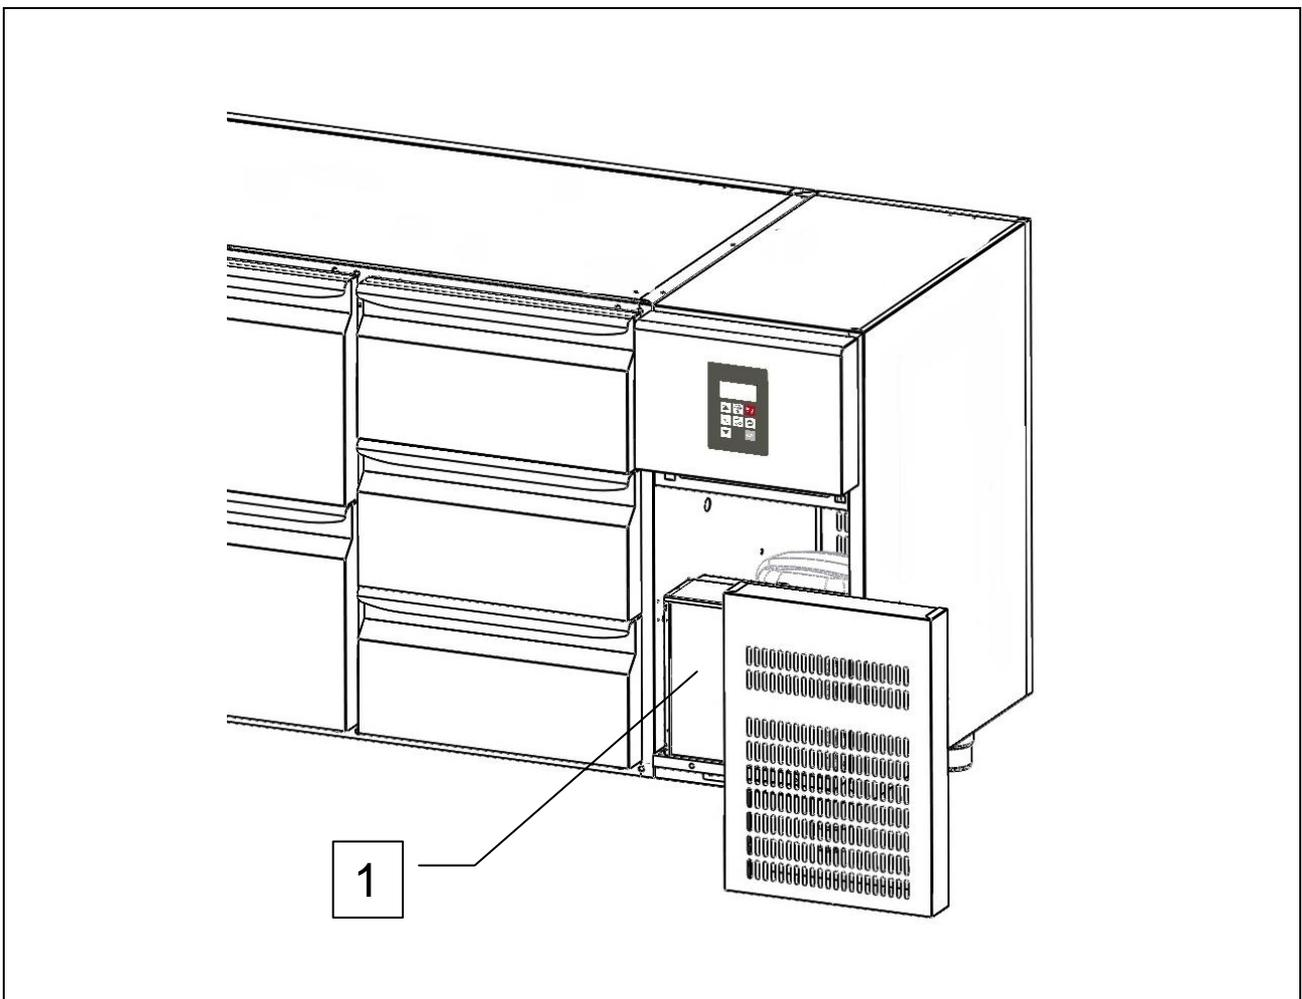

Fig. 9
For trouble-free efficient refrigerating unit operation, the air-cooled condenser (ref. 1 fig. 9) must be always kept clean so that air circulates freely. Cleaning must be done once every 60 days at the most. Use non-metallic brushes to clean, ensuring that all the dust and fluff is removed from the fins. We recommend using a vacuum cleaner so as to avoid dust being dispersed into the environment. If there are greasy deposits, remove them using a small brush soaked in alcohol.